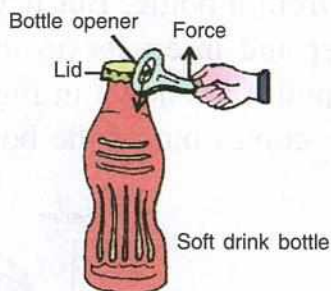

Fig. 4.5 A bottle opener used to open the lid of a soft drink bottle
6. A bottle opener is used to open the lid of a soft drink bottle (Fig. 4.5).